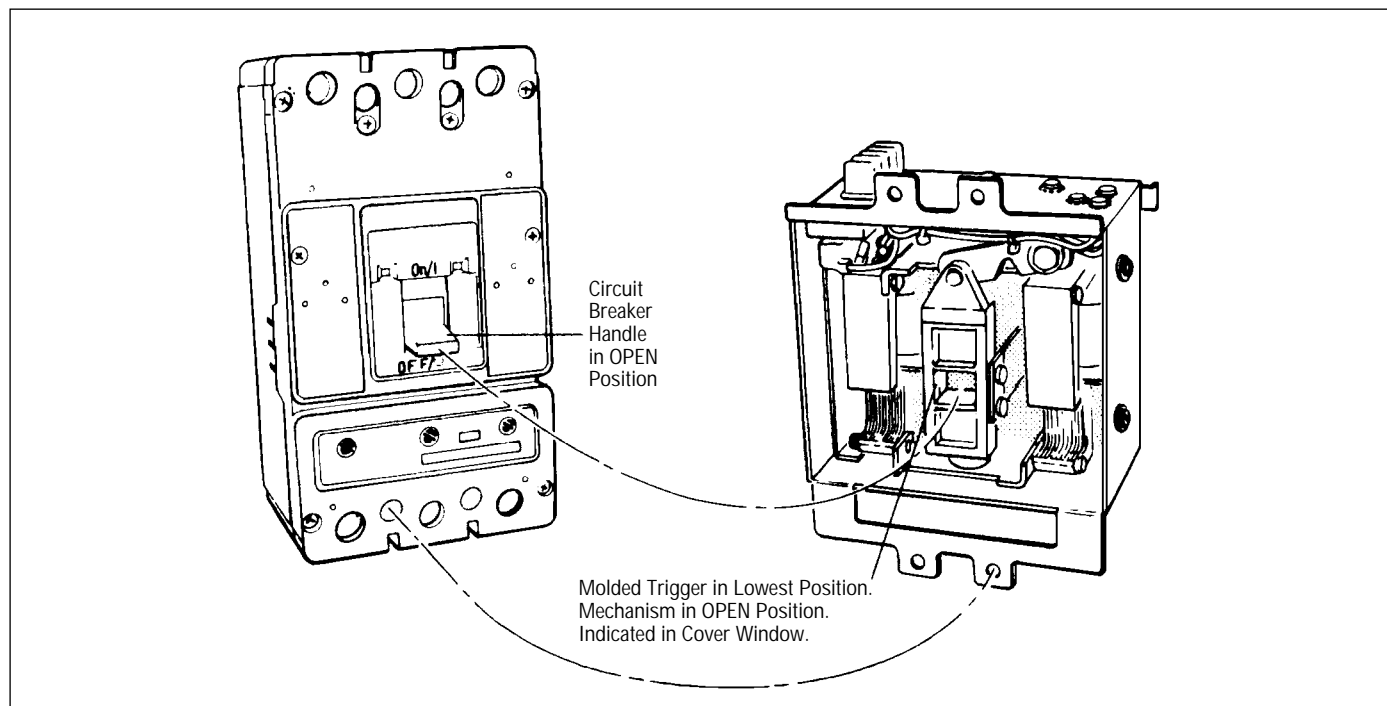

Figure 2-1 Position for Mounting Electrical Operator to Circuit Breaker (K-Frame Shown)
- 2-3. Install a new circuit breaker using special stacking screws provided with the electrical operator (Figure 2-1). Tighten screws firmly, but do not exceed 28 pound-inches (3 N.m)
2-5. Aligning the circuit breaker handle with the molded trigger as shown in Figure 2-1, place the solenoid operator on the face of the breaker assuring that the locating spacers, which are attached to the back of the line end of the solenoid operator, are positioned correctly in the line end cover mounting holes.